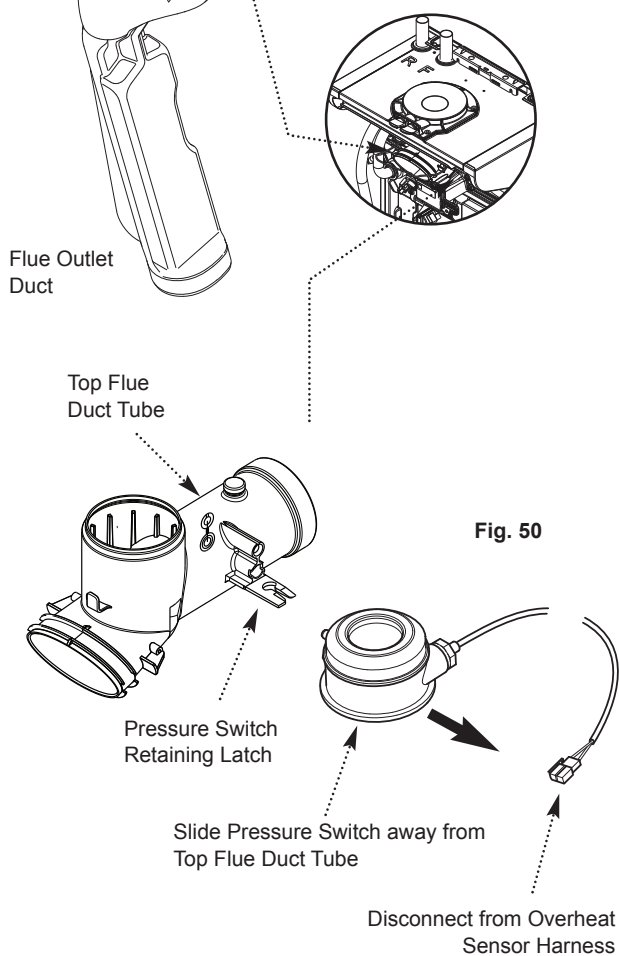

Fig. 50
10.3.5 Pressure Switch (21/25/30 only) (Fig. 50)